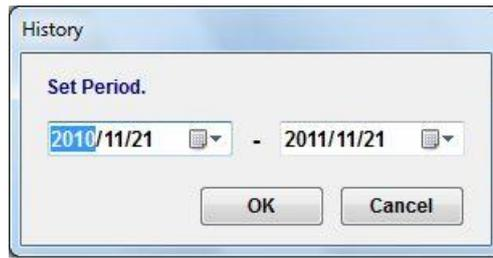

**Fig 9.3 Period Setting Dialog**
3. Select [Period] button and "Period Setting Dialog"(Fig.9-3) is displayed.